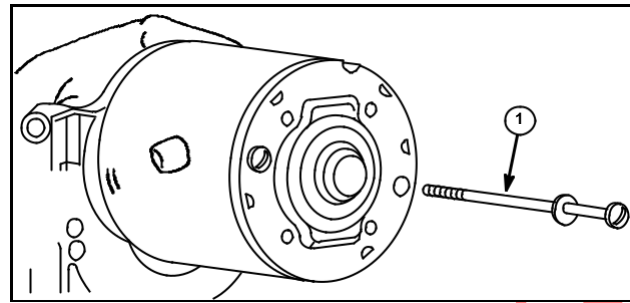

Fig. 50
1. Remove thru bolts (1), Fig. 50, then remove end head.